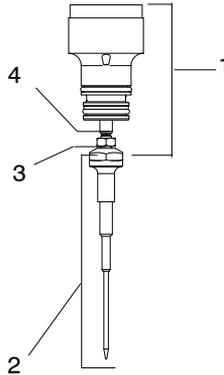

Figure 9: Piston/Cartridge Assembly and Needle Assembly
- a. See Figure 9. Loosen jam nut (3) on piston shaft and back nut up until against piston shaft shoulder (4).